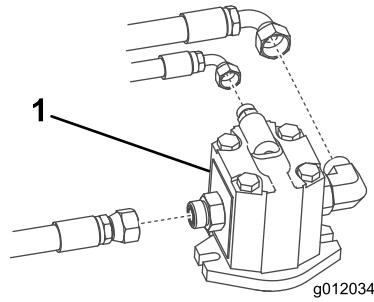

Figure 7
9. Disconnect the hydraulic hoses from the fittings on the hydraulic motor (center deck only) (Figure 7).